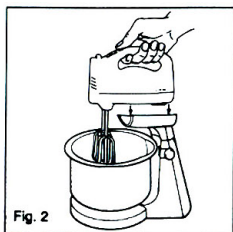

Fig. 2
**Before connecting the mixer to the power supply attach the mixer to the stand. Do this by placing the mixer on top of the cradle and pushing down to locate (Fig. 2). To remove the mixer, steady the cradle with one hand whilst lifting the mixer free with the other.**